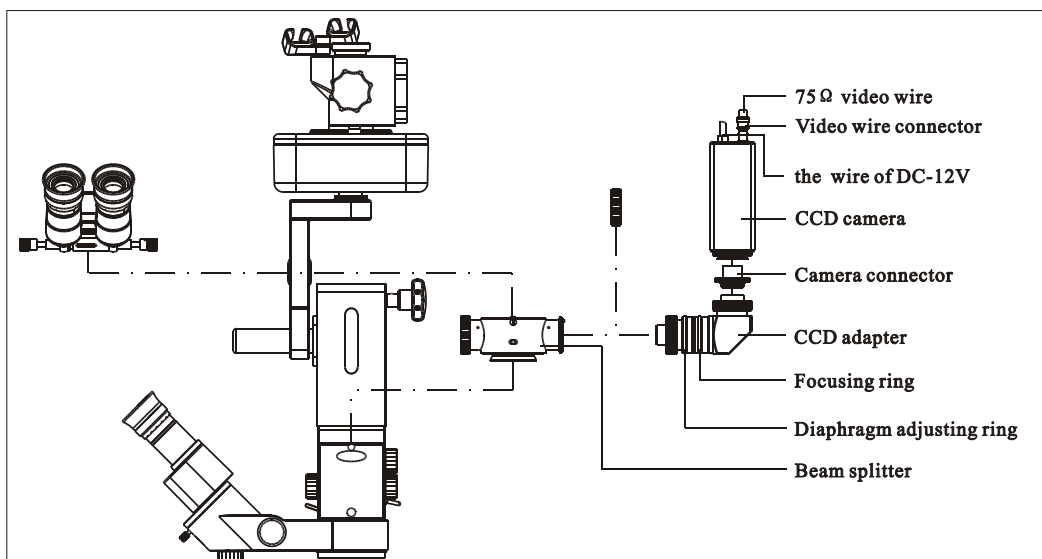

Fig.5
- 3.1.2 Make up the two borders and the foot-support indicated in Fig.5. Screw the hexagon screws into the six fixing holes and tighten them with the hexagon spanner. Restitute the two fixing holes' decorative covers taken off anteriorly.
3.6.10 Finally fit the eyepiece to the beam splitter(indicated in Fig. 5).
- 5.3.13 Assemble the CCD according to the above-mentioned process if it is needed. The CCD device is indicated in Fig.5.